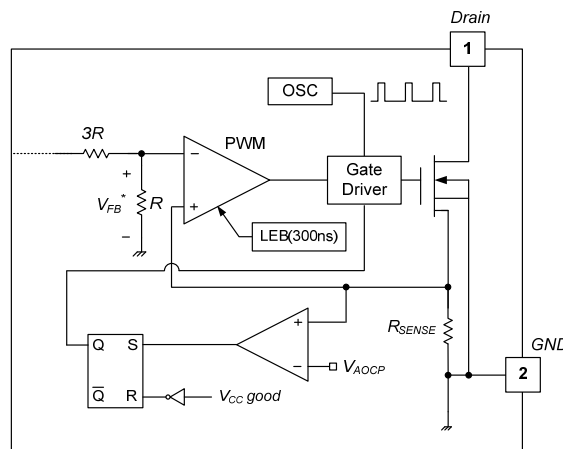

Figure 21. Abnormal Over-Current Protection
4.2 Abnormal Over-Current Protection (AOCP): When the secondary rectifier diodes or the transformer pins are shorted, a steep current with extremely high di/dt can flow through the SenseFET during the minimum turn-on time. Overload protection is not enough to protect the FSD176MRT in that abnormal case; since severe current stress is imposed on the SenseFET until OLP is triggered. The FSD176MRT internal AOCP circuit is shown in Figure 21. When the gate turn-on signal is applied to the power SenseFET, the AOCP block is enabled and monitors the current through the sensing resistor. The voltage across the resistor is compared with a preset AOCP level. If the sensing resistor voltage is greater than the AOCP level, the set signal is applied to the S-R latch, resulting in the shutdown of the SMPS.